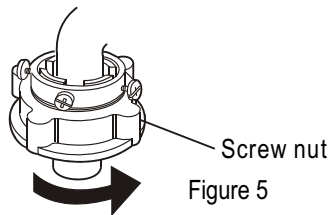

Figure 5
6. Install the protecting cover of the drain outlet to the other side, as indicated in Figure 5.
4 Take off the nameplate. Twist the fastening nut as per the indication of the figure to seal up the exit end face of the faucet. See to Figure 5.